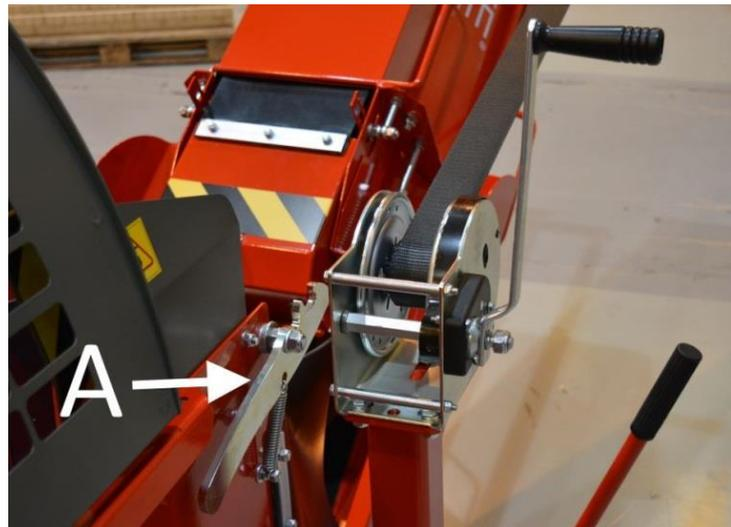

Figure 4a.
3. Keep lock A (Figure 4a) open and lower the out-feed conveyor using a winch to its lowest position.